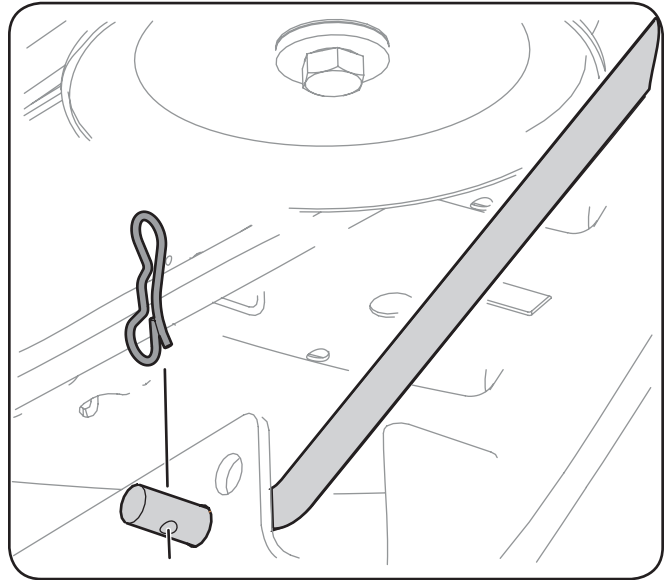

Figure 7-4
13. Pull the cotter pin out of the front deck lift rod securing it to the deck. See Figure 7-4. Slide the deck lift rod out of the front hanger bracket.